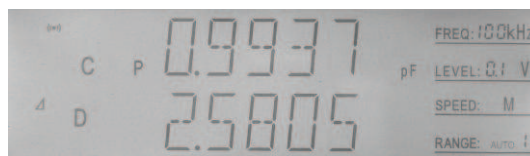

Figure 4-6 Absolute deviation display mode
3. Press **DISP** key, " $\Delta$ " or "%" is displayed on LCD, as shown in Figure 4-6.